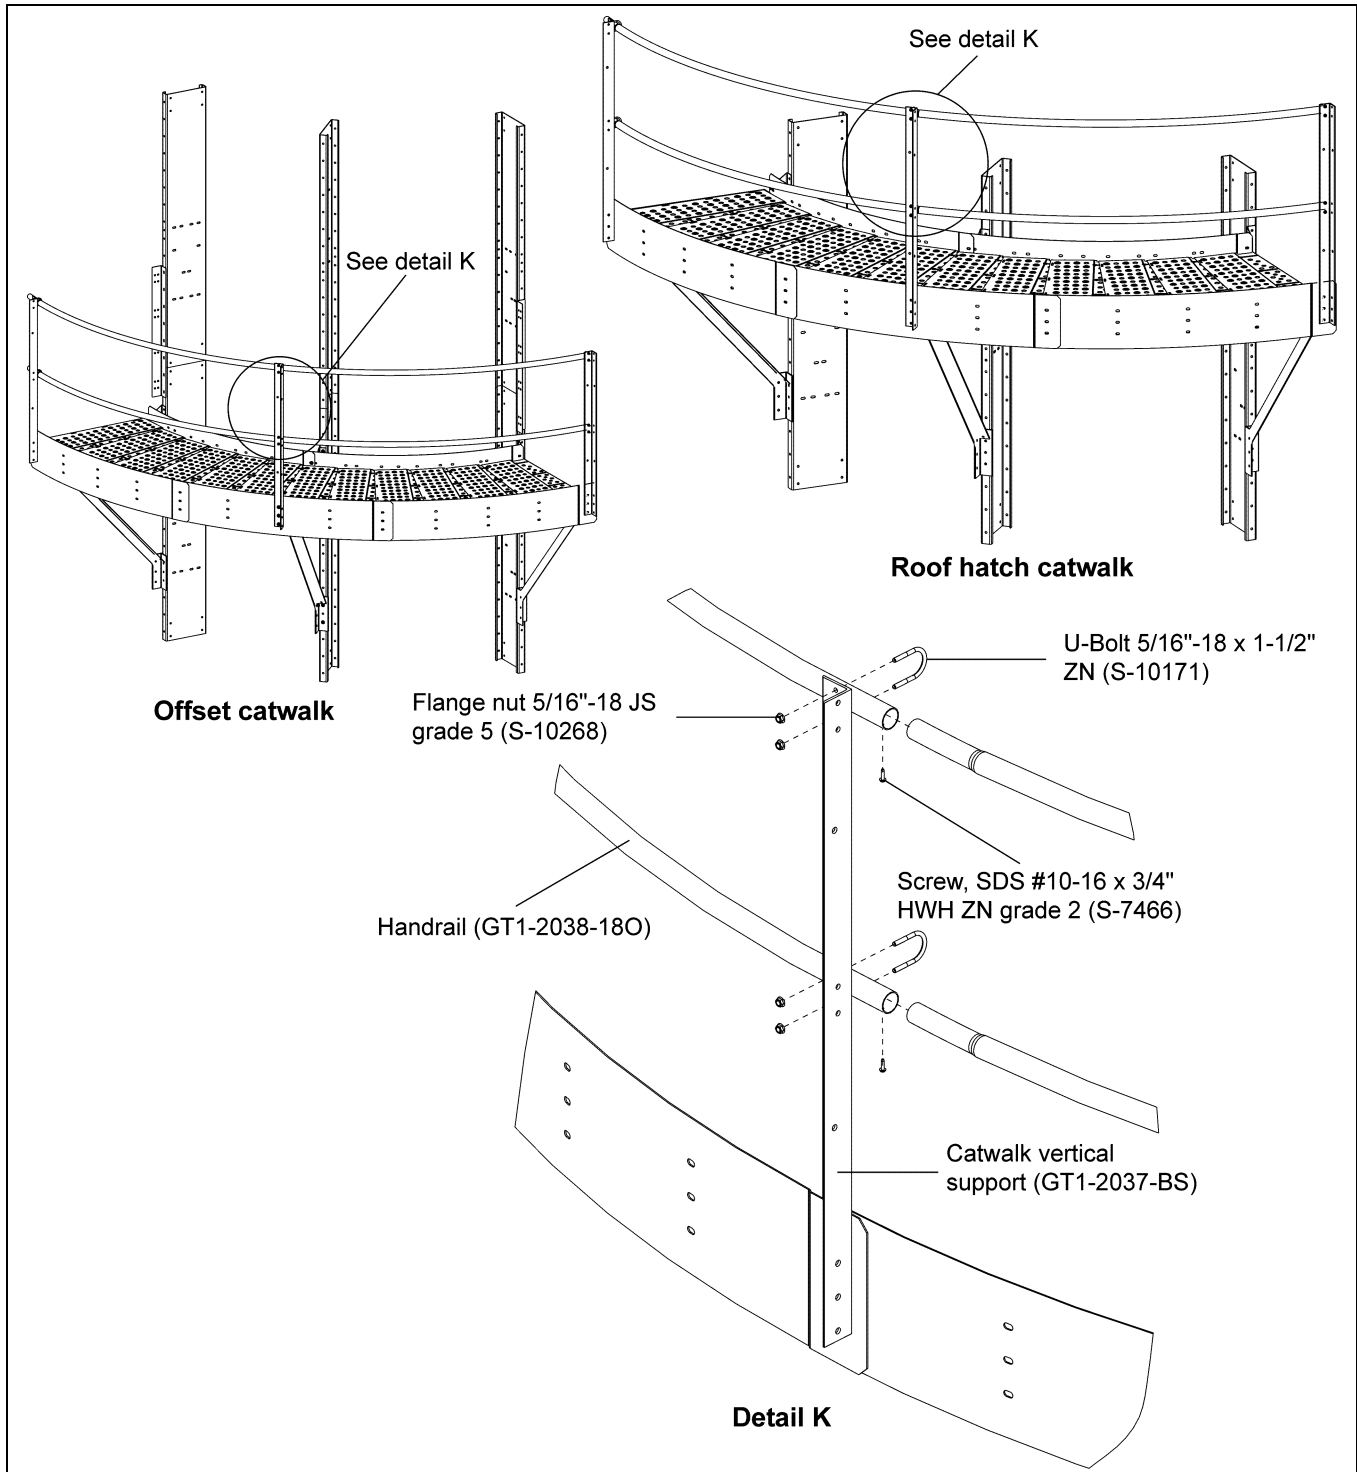

Figure 6U Handrail (GT1-2038-18O) Installation for Offset and Roof Hatch Catwalks
1. Install the long handrail (GT1-2038-18O) to the catwalk vertical support (GT1-2037-BS) using 5/16"-18 ZN U-bolts (S-10171) and 5/16"-18 JS grade 5 nuts (S-10268) to tighten the handrail with vertical post. (See Figure 6U.)
2. Use the self-tapping screw SDS #10-16 x 3/4" HWH ZN grade 2 (S-7466) at all handrail pipe joints. (See Figure 6U.)